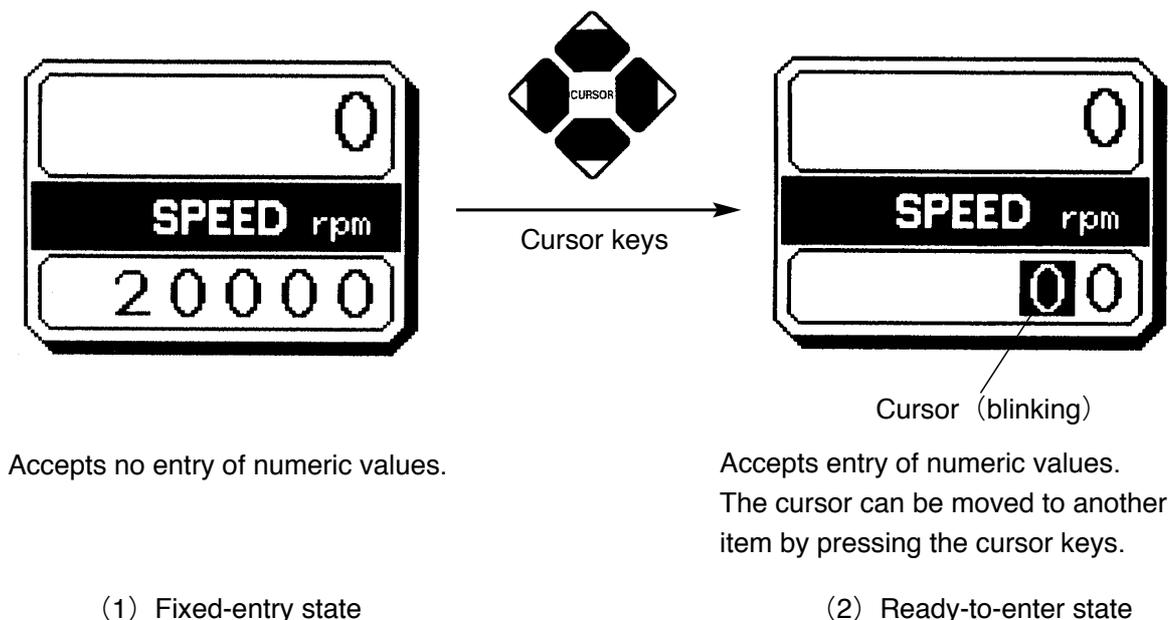

Fig. 3-2-2 Entry line state
A cursor appears and blinks on the entry line of a run condition display by pressing a cursor key as shown in Fig. 3-2-2 (2).